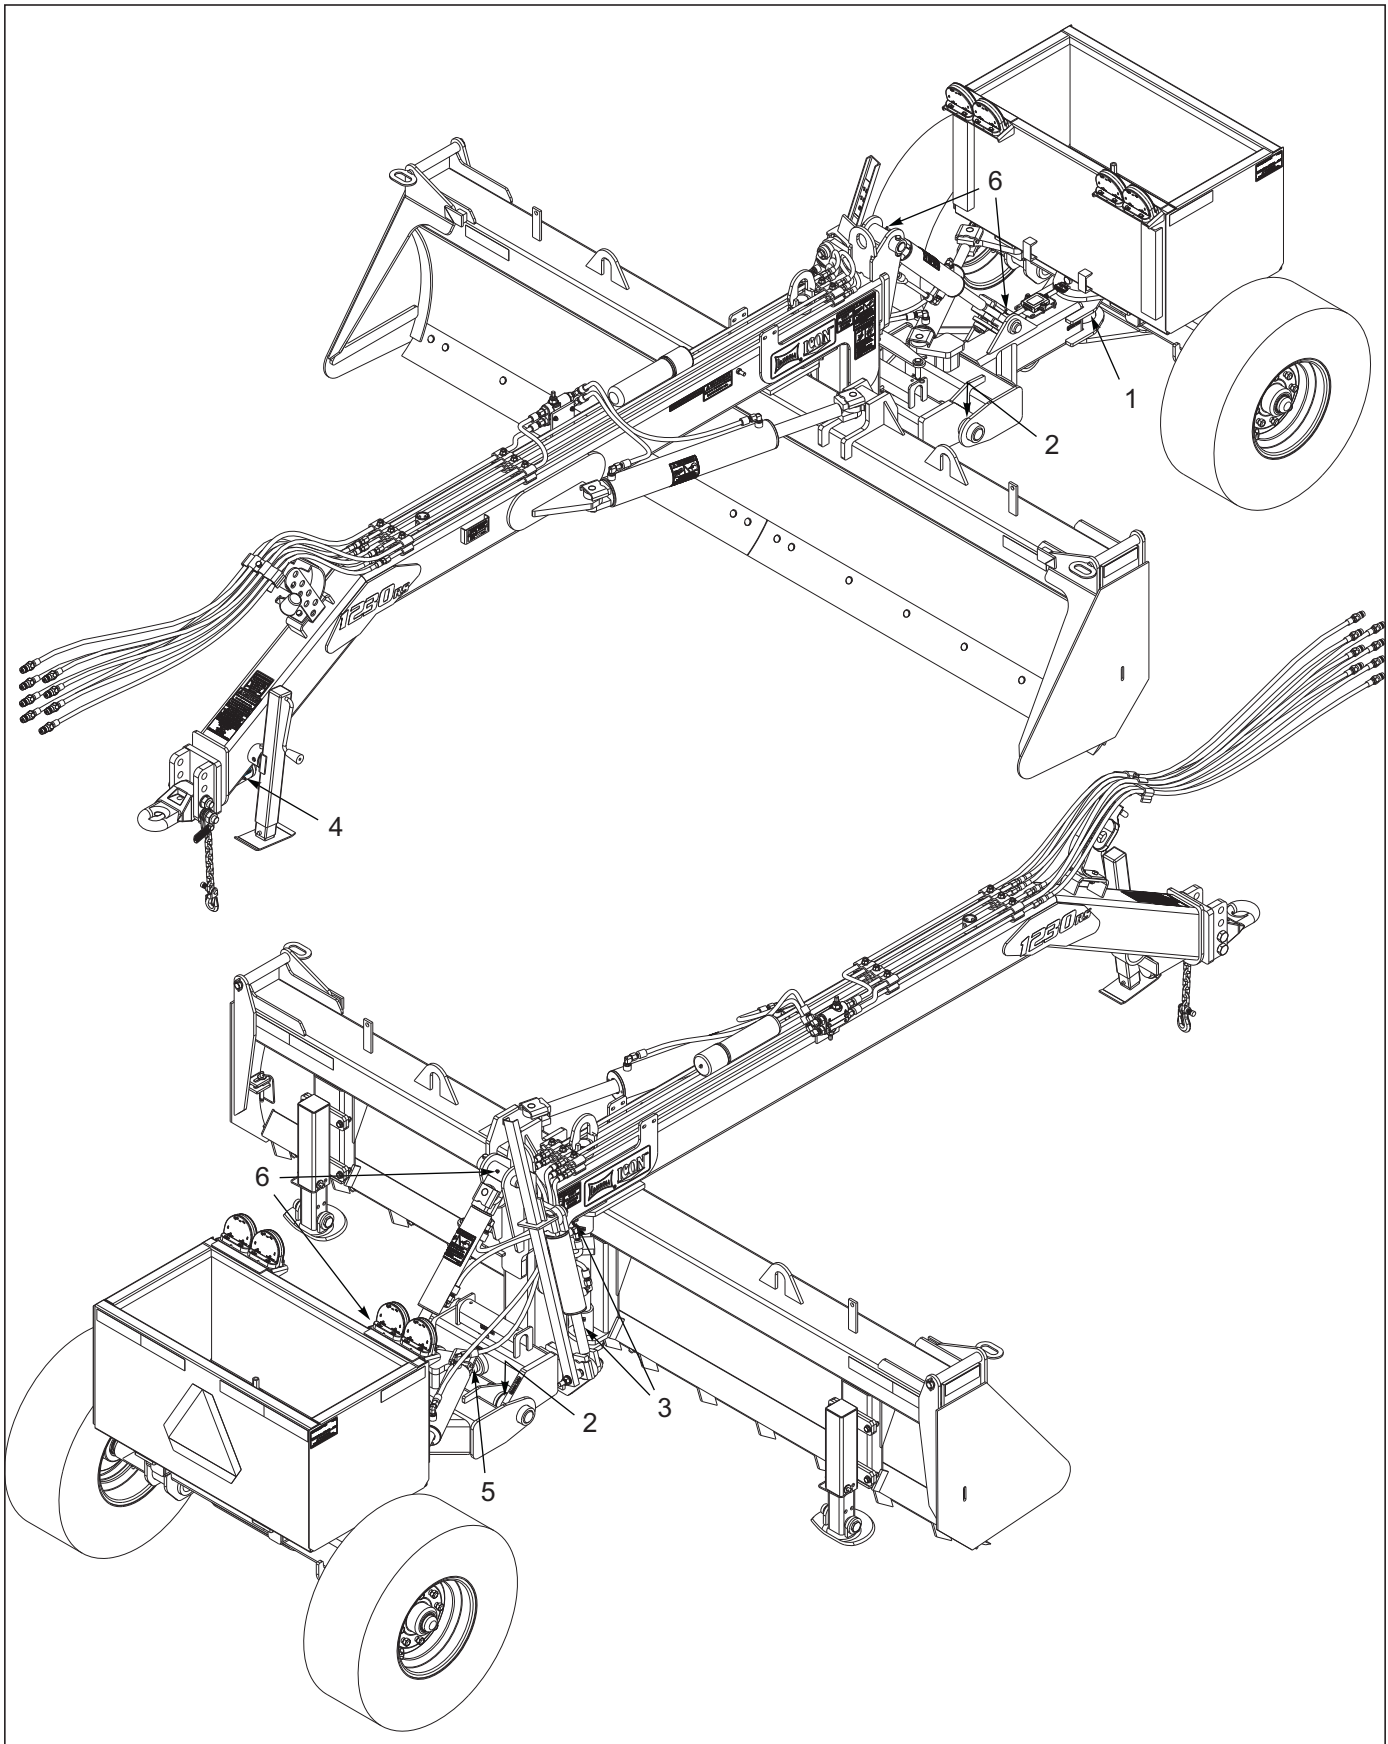

Figure 3-1: Lubrication Schedule
1. **Table 3-1** specifies the number and the period of lubrication points on the 1030/1030RS/1230/1230RS Grader. Proper maintenance of your machine will, under normal operating conditions, help to keep it operating at or near its peak performance for an extended period of time. Proper maintenance is also a condition of keeping your warranty in good status **See Figure 3-1.**